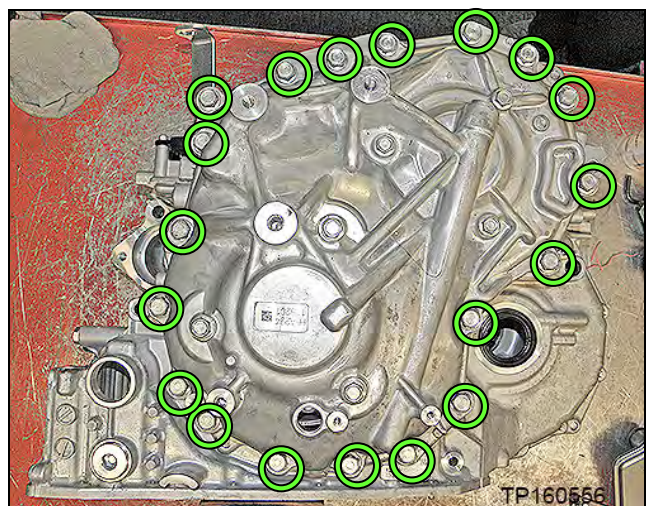

Figure 7F
5. Remove the nineteen (19) side cover fixing bolts (Figure 7F).